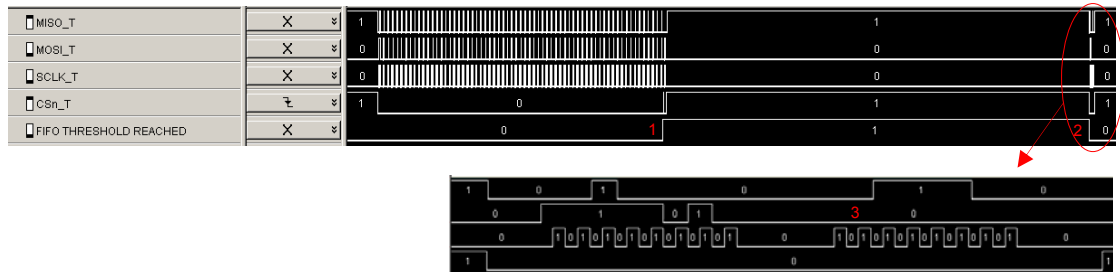

Figure 11. IOCFGx = 0x03
This signal is associated with the TX FIFO; it asserts when TX FIFO is full and de-asserts when the TX FIFO is drained below the TX FIFO threshold. If FIFOTHR.FIFO_THR = 0 (TX FIFO threshold = 61 bytes) and 64 bytes are written to the TX FIFO, the GDOx signal will behave as shown in Figure 11; It asserts after 64 bytes have been written to the TX FIFO (1) and de-asserts when there are less than 61 bytes left (2). Reading the TXBYTES register after the GDOx was de-asserted shows that there are 60 bytes left in the TX FIFO (3).